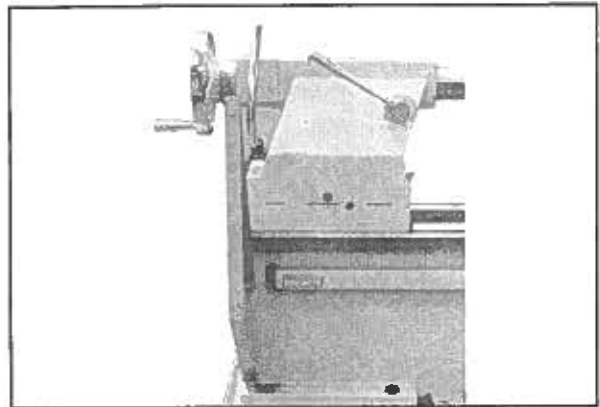

Figure 25. Longitudinal scale mounting on lathe.
3. The longitudinal scale should be mounted on the back of the lathe, (**Figure 25**) with the open side of the scale facing down, and must be parallel to the bed.